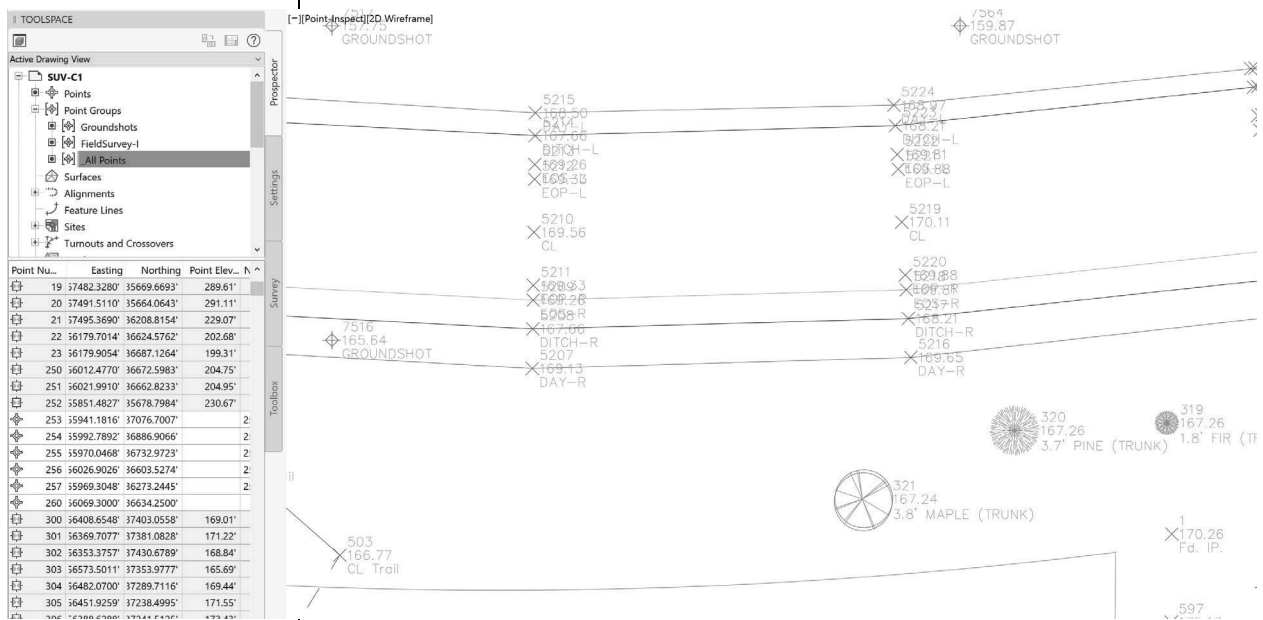

Figure 2-48
- In the *View* tab>Named Views panel, expand the drop-down list and select **Point-Inspect**. This zooms into an area located east of the existing road, as shown in Figure 2-48. Note that when this view is restored, the viewing scale also changes to 1" = 20', for that is stored in the view definition.